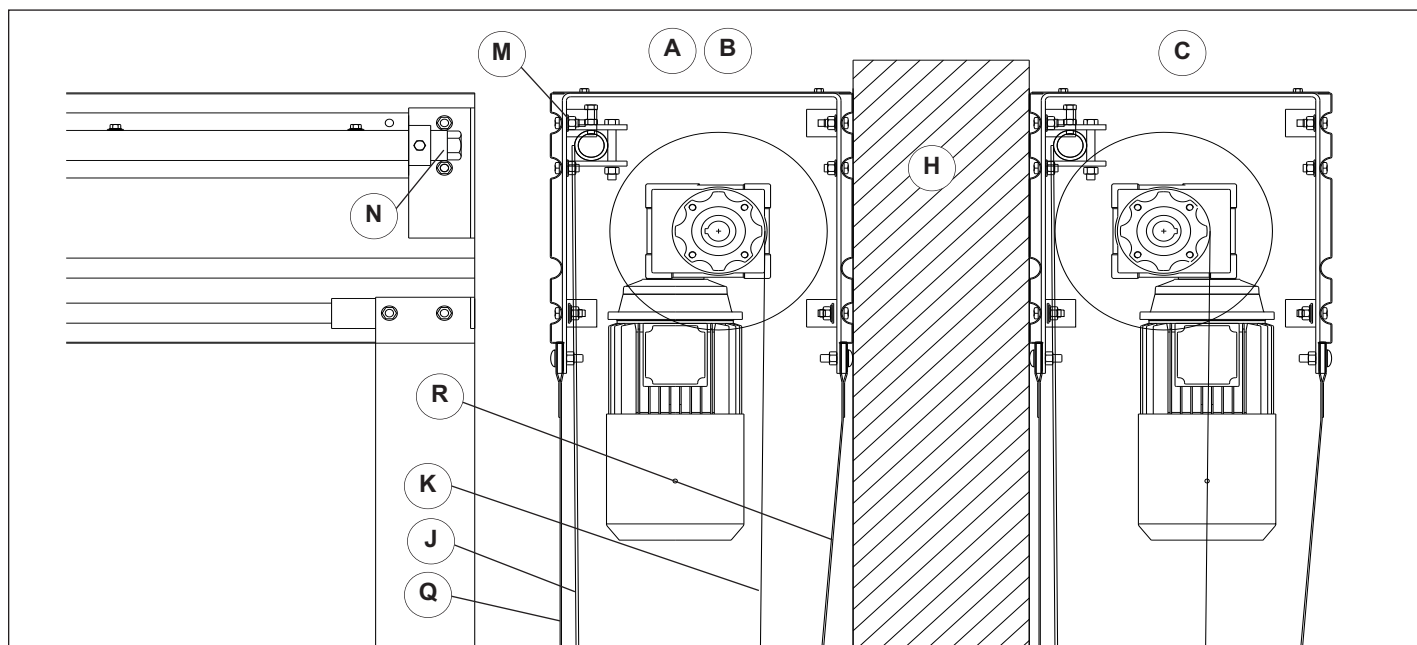

Figure 8.4
1. Looking at a cross section of the jamb (H), an Exterior / Exterior (A) or Interior / Interior (B), will have the curtain (J) attached to the front header brace (U). An Exterior / Interior (C) mounted door will have the curtain attached to the rear header brace (T), Figure 8.4.
2. **** The lifting straps on the curtain will always be on the inside of the building (K).**